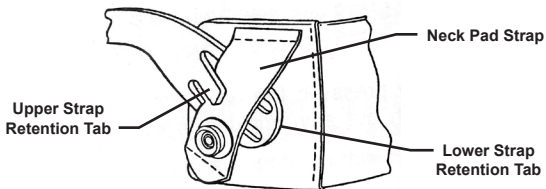

Figure 7-1. Re-installing the Neck Pad
1. Lift the upper headband strap retention tab (see Figure 7-1) allowing the neck pad strap to be inserted underneath.